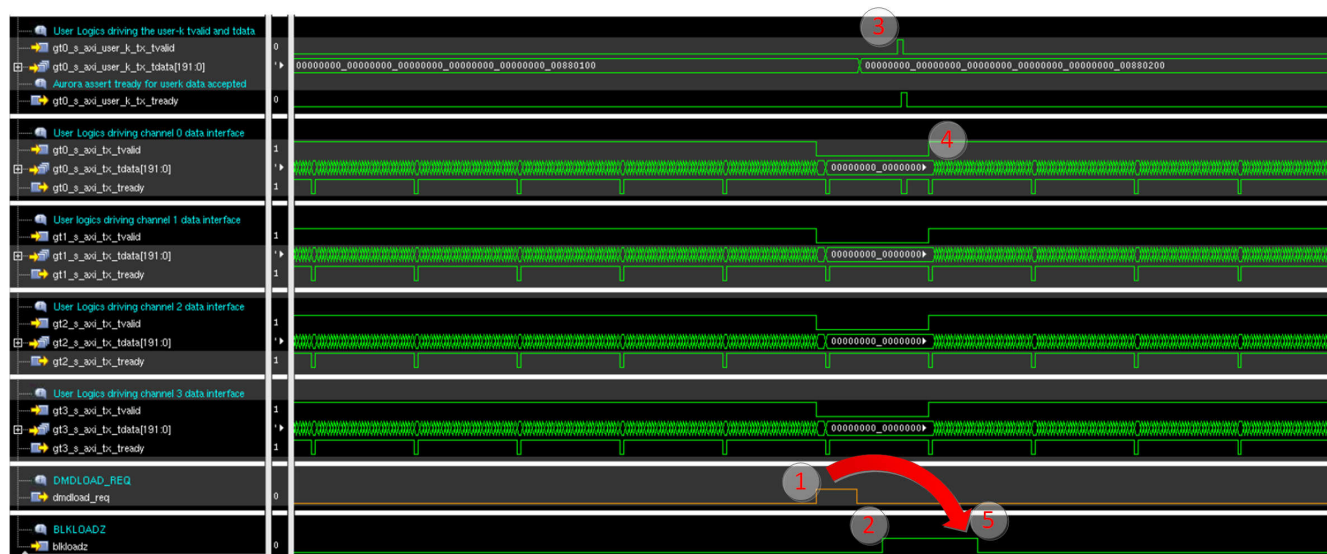

Figure 8-18. End of Block DMDLOAD_REQ Assertion Follow By New Block Control Word Waveform
- Refer to Figure 8-18 for the scenario where after the Apps user logics has completed the transfer of current block. The user can find that the DLPC964 is still loading the previous block to the DMD (for example, BLKLOADZ is low). The Apps FPGA can still assert the DMDLOAD_REQ while BLKLOADZ is low because the DLPC964 can detect and store this DMDLOAD_REQ request. After completing the Aurora data transfer of the current DMD block and asserting the DMDLOAD_REQ signal, the Apps FPGA must wait for the de-assertion of BLKLOADZ by the DLPC964 (for example, BLKLOADZ transition from low to high) before starting the next block. De-assertion of BLKLOADZ means the DLPC964 has completed the DMD data loading operation for previous block and a data buffer is freed up for accepting a new data block from the Aurora interface.